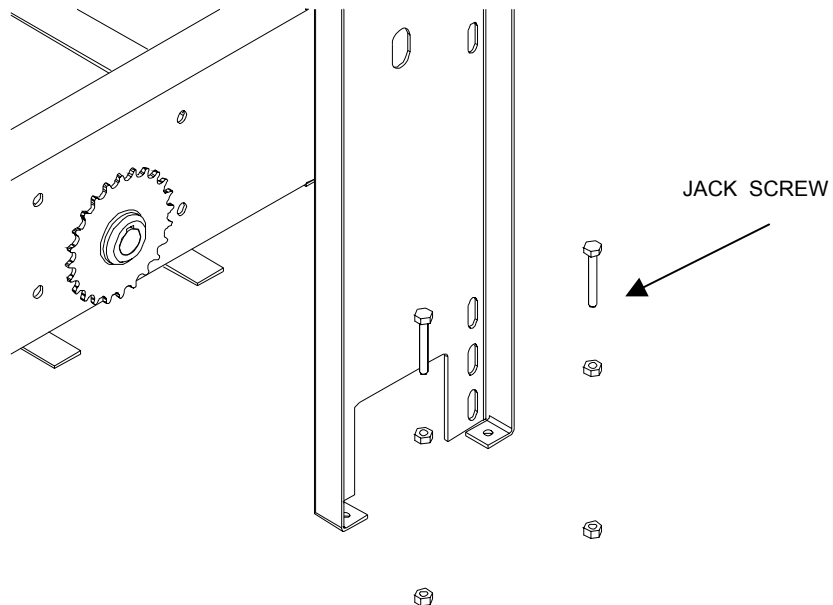

Figure 12
4. Using the jackscrews (See Figure 12) lift the chain box assembly to remove **all slack** from the chain and tighten the mounting bolts.
4. Using the jack screws (see Figure 12) lift the chain box assembly to remove **all slack** from the chain and tighten the mounting bolts.